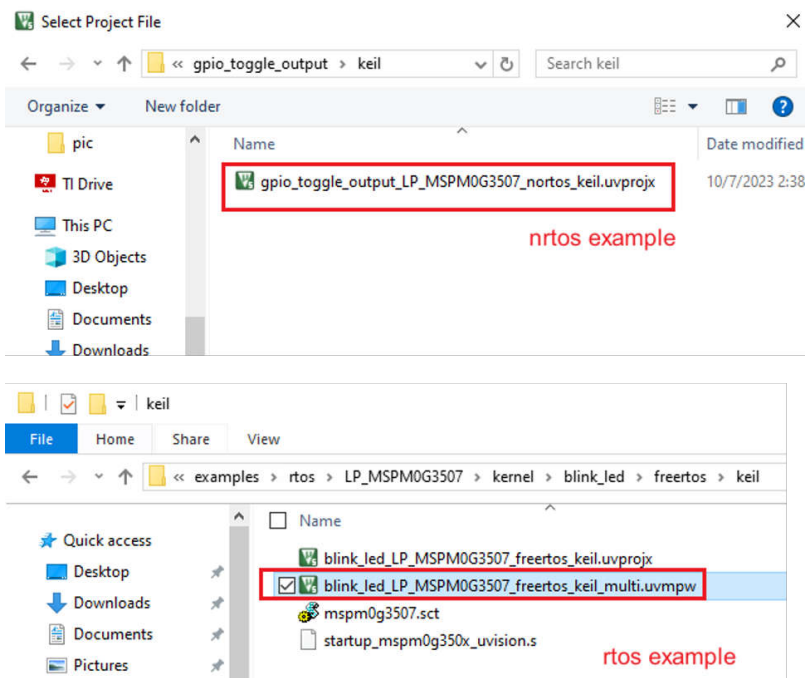

Figure 3-43. Select Keil Project
2. Select a demo project from SDK. For the nortos example, use the .uvprojx project file. For the RTOS example, use .the uvmpw work space file. An example is shown in Figure 3-43.